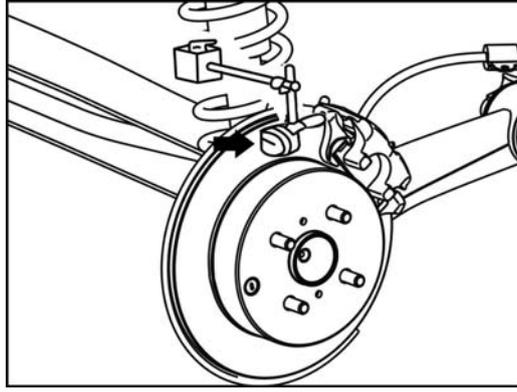

Fig.2-68
- ① Mark on the brake disc and wheel hub.
- ② Take off the brake disc.
- ① Temporarily tighten the brake disc. Tightening torque: 103N·m.
- ② Measure the swaying of brake disc at 10mm away from the outer edge of brake disc by a dial indicator. See Fig. 2-68. Max: 0.05mm.